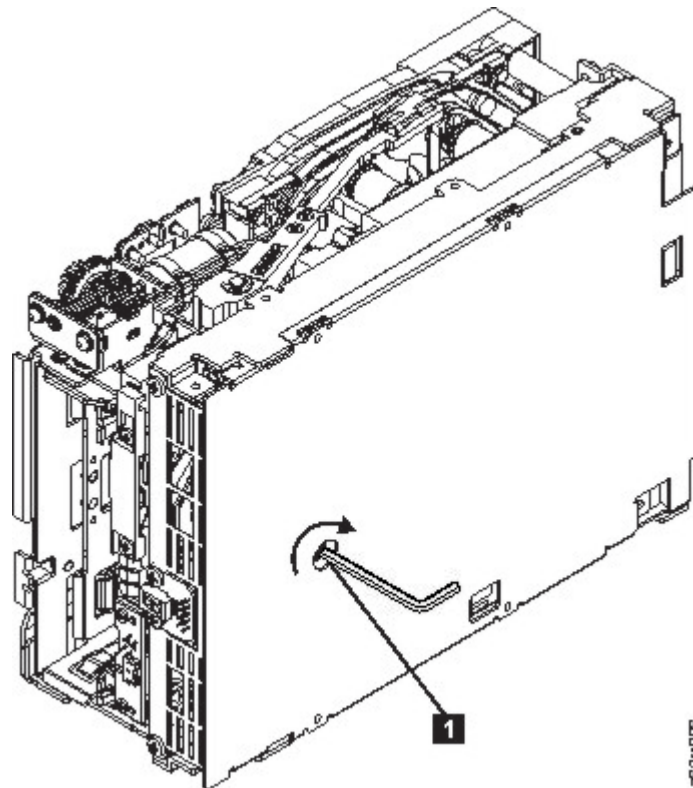

Figure 111. The hex wrench rewinds tape into cartridge
6. From the bottom of the drive, locate the access hole (1 in Figure 111 on page 187) in the bottom cover. Insert a 2.5 mm offset hex wrench through the bottom cover access hole and into the reel motor axle. Begin spooling tape back into the cartridge by turning the hex wrench clockwise.